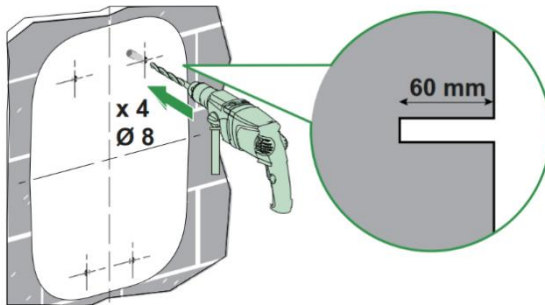

Figure. 17 Drilling holes on the wall
(3) Drill holes at the marked position with a $\phi 8$ drill. The effective length of drill is not less than 80mm, and the drilling depth is 60mm, as shown in Figure. 17.